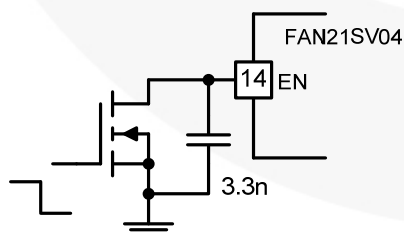

Figure 30. Enabling with External Control
FAN21SV04 has an internal pull-up to the enable (EN) pin so that the IC is enabled once V_{IN_Reg} exceeds the UVLO threshold. Connecting a small capacitor across EN and AGND delays the rate of voltage rise on the EN pin. The EN pin also serves for the restart whenever a fault occurs (refer to the *Auto-Restart* section). If the regulator is enabled externally, the external EN signal should go HIGH only after 5 V_{Reg} is established. For applications where such sequencing is required, FAN21SV04 can be enabled (after the V_{CC} comes up) with external control, as shown in Figure 30.